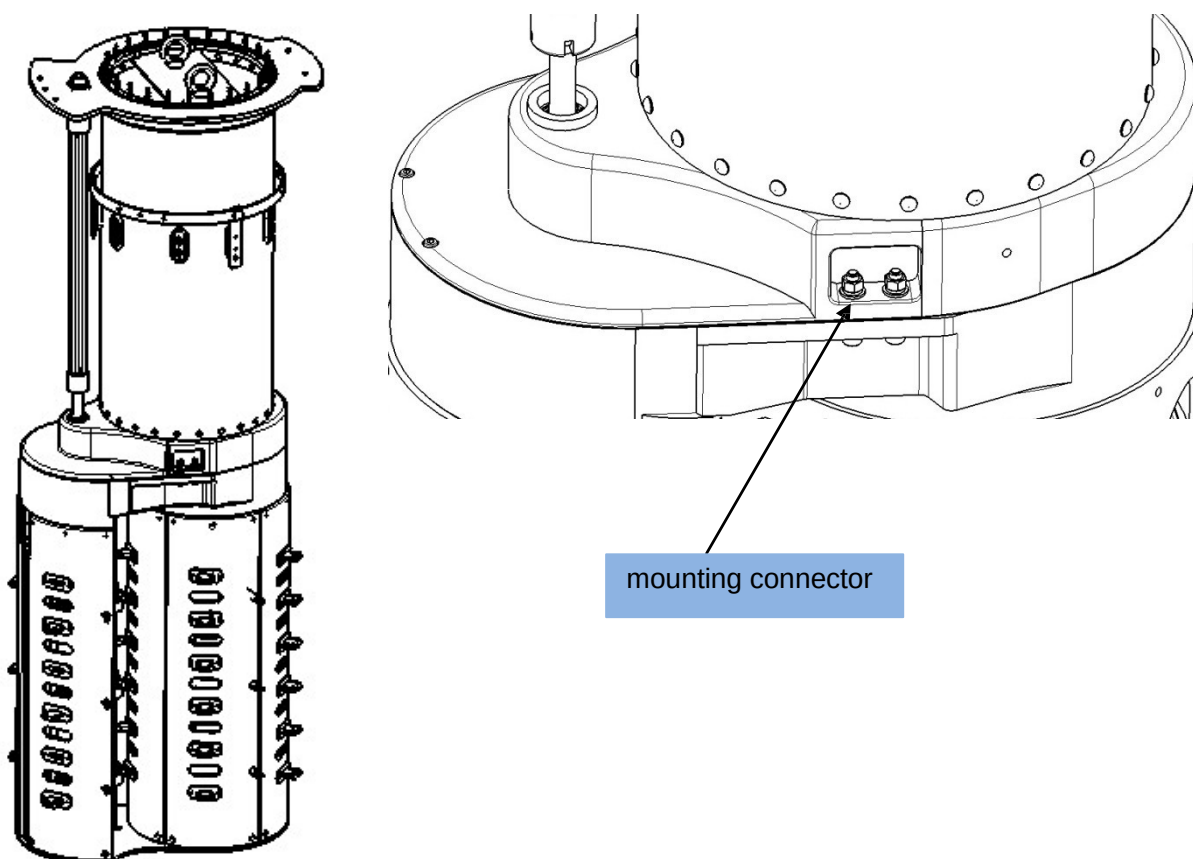

Figure11 The gas compartment and the tap selector connecting diagram
4. Lift the diverter switch until it's above the tap selector. (See Figure11)
6. Align the gas compartment's mounting hole with the tap selector's. Find the mounting connector in the tap selector accessory box 1 for alignment (see Figure11) with a torque of **50 to 60 Nm**.